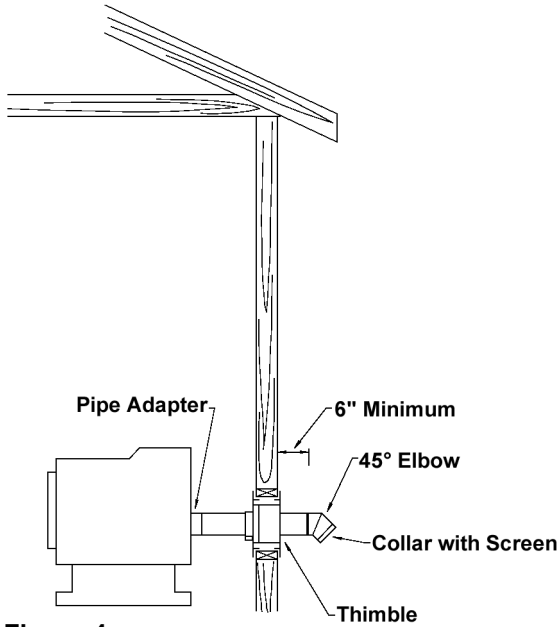
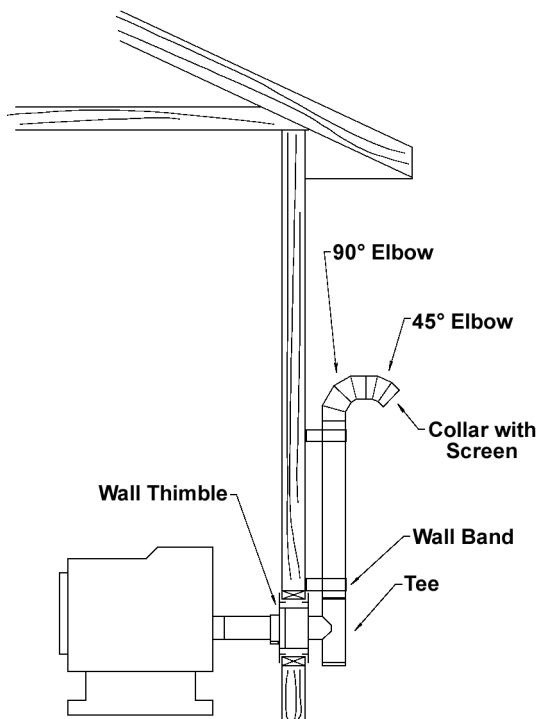

Figure 4
Figure 7
2.1 General vent layout is shown in Figures 4 and 6. In selecting the location for the appliance and the vent, it is necessary to take into account the various local code restrictions.
- 2.9 There are two alternative vent terminations. A 45-degree elbow may be used together with a collar with screen as shown in Figure 4, or as shown in section 2.2 and Figure 7.
- 4.3 Attach a 45-degree elbow to the 90-degree elbow, aiming the second elbow down toward the ground. Terminate the vent with a collar with screen fastened to the 45-degree elbow. See Figure 7.